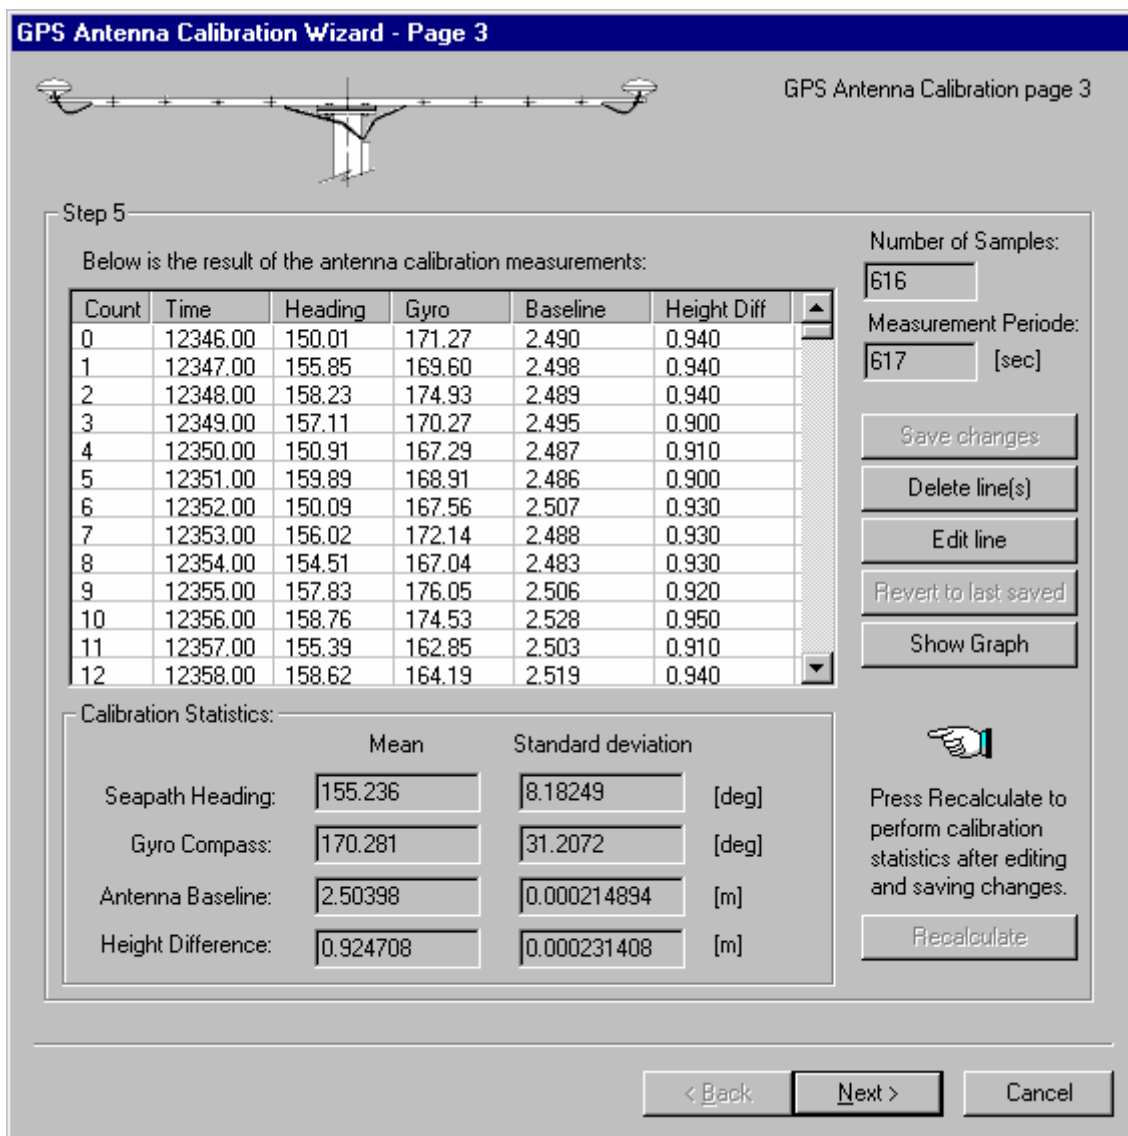

Figure 42 Page 3 of GPS Antenna Configuration
- Click the **Back** or **Cancel** button at any time if you want to stop the calibration process, see the window in Figure 42. Accept to stop the calibration by clicking **Yes** or click **No** to continue.